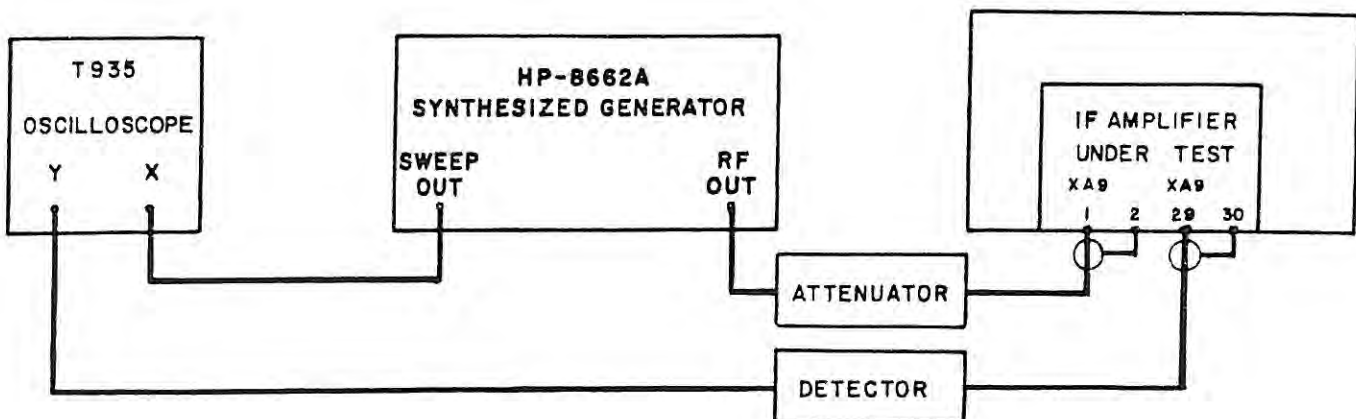

Figure S-3. IF Amplifier Alignment, Equipment Connections
4. Connect the test equipment as illustrated in **Figure S-3** except, connect the attenuator output to the input of the 50Ω detector.
6. Connect the test equipment as illustrated in **Figure S-3** with the attenuator set to compensate for the gain of the selected IF Amplifier module. Vary the attenuator setting and the signal generator output as required to return the detected display to the reference level set in step 5.
4. Connect the test equipment as illustrated in **Figure S-3**, except connect the attenuator output to the input of the 50 Ω detector.
6. Connect the detector and attenuator as illustrated in **Figure S-3** and increase the attenuator setting to the dB level listed in the Gain column of **Table S-3**, corresponding to the Switchable IF Filter Amplifier under test.